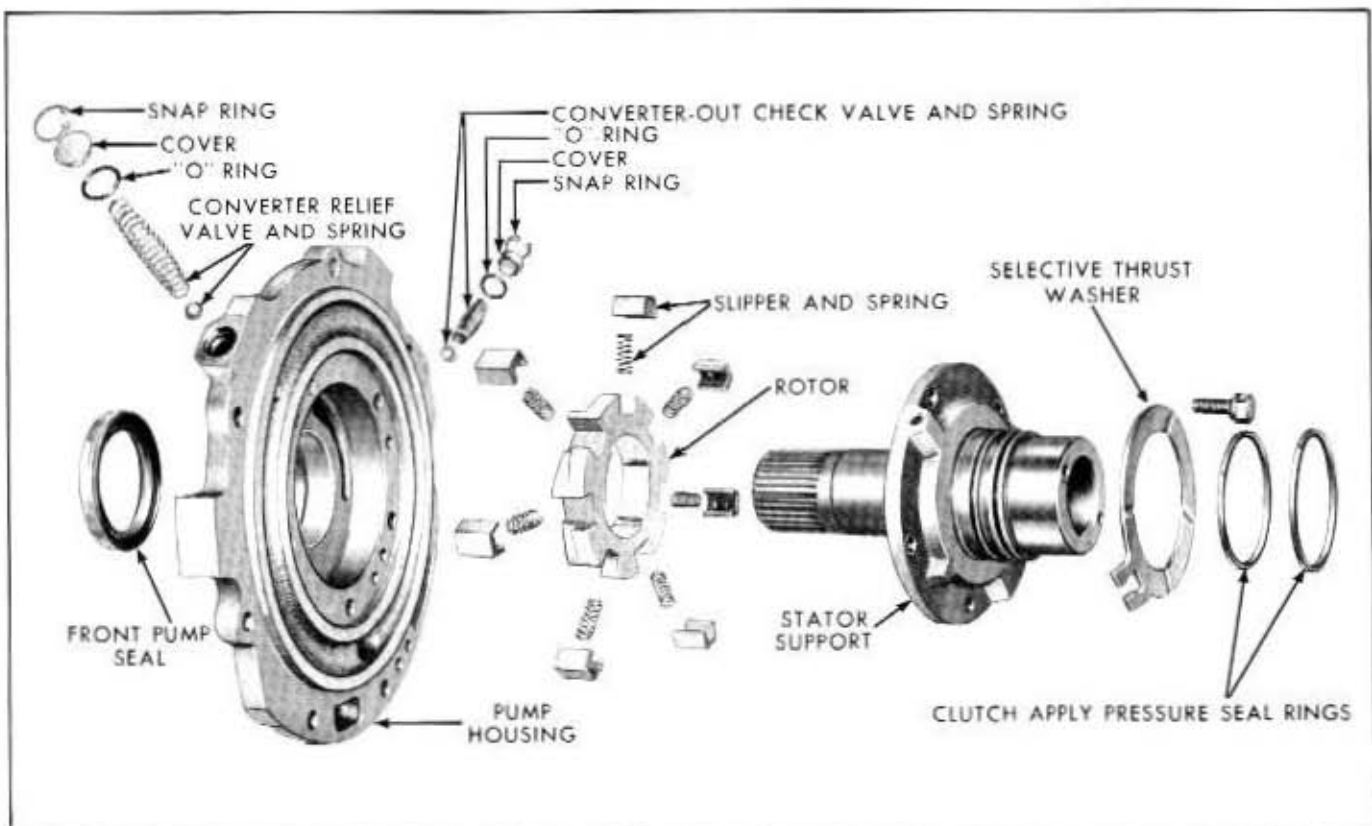

Fig. 7A-18—Front Pump and Stator Support—(60C-4418)
4. To remove the converter pressure relief valve and the converter-out check valve (figure 7A-18), use Pliers, Tool 33621, to remove the snap rings.